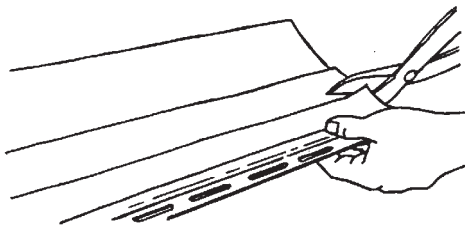

Figure 22.
- With tin snips, avoid closing the blades completely at the end of a stroke for a neater, cleaner cut (Fig. 22).